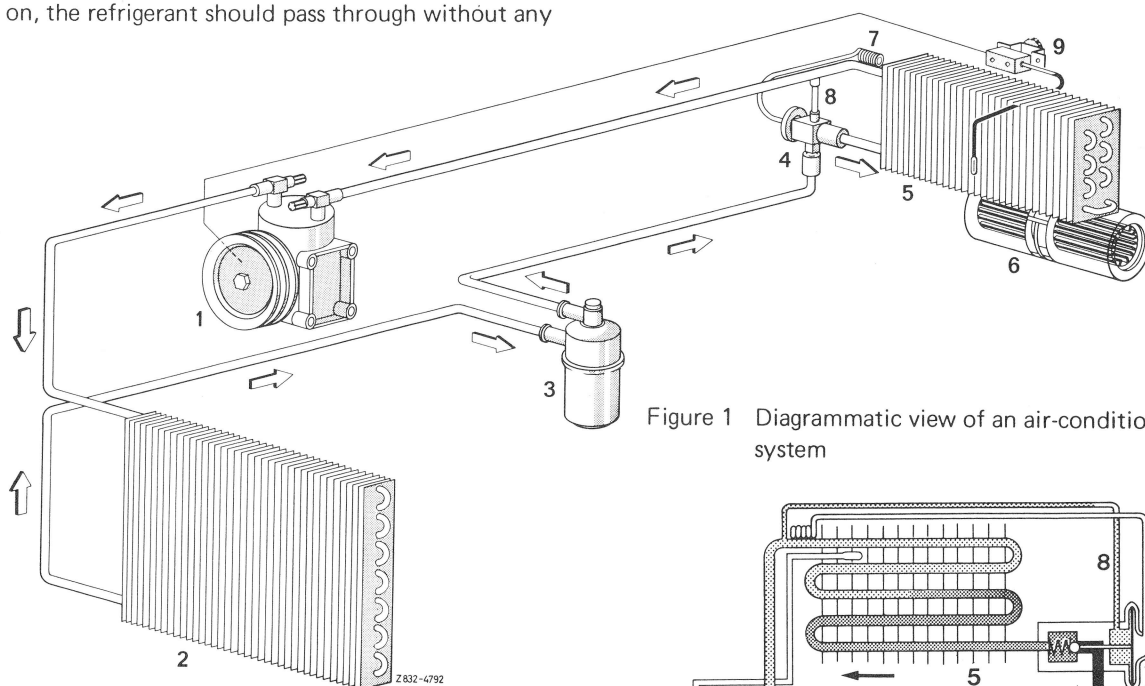
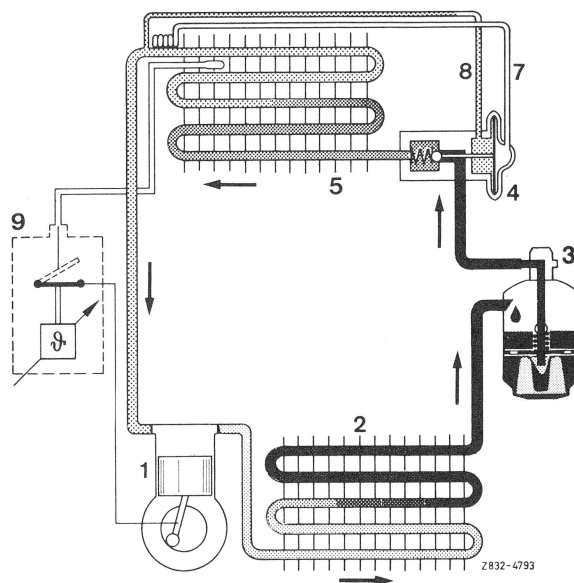

Figure 1 Diagrammatic view of an air-conditioning system
Figure 2 Refrigeration cycle
The refrigerant compressor (1), driven by the engine, draws in the heated, vaporized, low-pressure refrigerant R 12 and forces it into the condenser (2) (Fig. 1). The outside air drawn in through the condenser, which is located in front of the radiator, cools the vaporized refrigerant (which has been changed to a high temperature, high-pressure state by the compression process) to the point where it becomes liquid. The liquid refrigerant now passes into the receiver (3). The filter-drier (dehydrator) installed in the receiver absorbs any remaining water in the liquid refrigerant to avoid icing of the expansion valve (4) (Fig. 2). The refrigerant level in the system can be checked at any time through a sight glass at the top of the receiver. When the system is switched on, the refrigerant should pass through without any